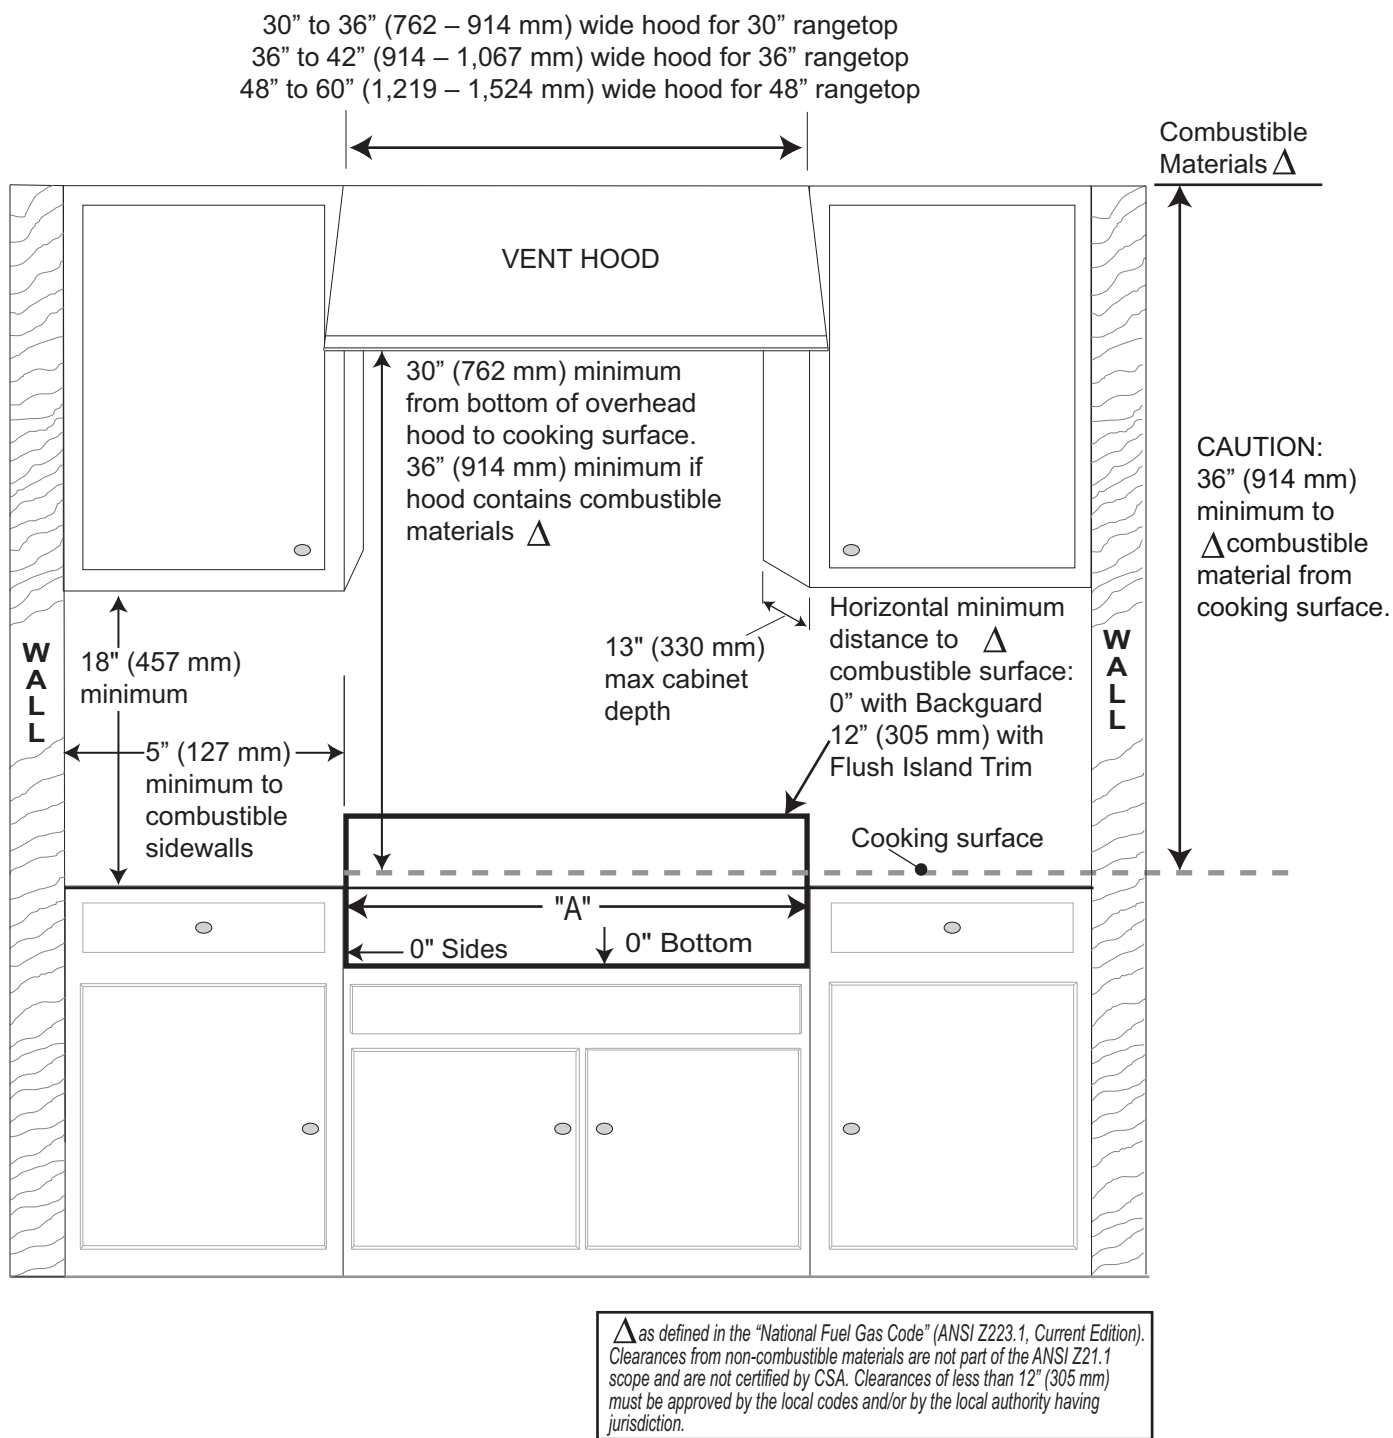

Figure 1: Clearance Requirements
When using the Flush Island Trim, THERMADOR recommends a minimum 12" (305 mm) rear clearance to a combustible surface (see Figure 1, Clearance Requirements). Clearances from non-combustible materials are not part of the ANSI Z21.1 scope and are not certified by CSA. Clearances of less than 12" (305 mm) must be approved by the local codes and/or by the local authority having jurisdiction.
- For best smoke elimination, the lower edge of the hood should be installed 30" (762 mm) above the rangetop cooking surface. Use a 36" (914 mm) minimum clearance if the hood contains any combustible materials such as a wood covering (see *Figure 1* on *page 6*).
- For high output gas rangetops (60,000 BTU or greater), the minimum of one (1) CFM of ventilation per 100 BTU is recommended. If the rangetop has a griddle, add 200 CFM to the estimated blower capacity. Additional blower capacity may be required for longer duct runs.
2. The clearances shown in *Figure 1* are required. The same clearances apply to island installations, except for the overhead cabinets, which must have a space wide enough to accept the island hood.
7. When using the Flush Island Trim, THERMADOR® recommends a minimum 12" (305 mm) rear clearance to a combustible surface (see *Figure 1*, *Clearance Requirements*). Clearances from non-combustible materials are not part of the ANSI Z21.1 scope and are not certified by CSA. Clearances of less than 12" (305 mm) must be approved by the local codes and/or by the local authority having jurisdiction.
13. For installation of a 48" rangetop above two side-by-side THERMADOR® warming drawers (WD24), refer to *Figure 8*. Completing the installation as per *Figure 8* will result in the left and right edges of the rangetop being aligned with the left edge of the left-side warming drawer and right edge of the right-side warming drawer. If different alignment is desired, the 1 7/8" (48 mm) horizontal distance between warming drawer cutouts may be varied. However, maintain at least a 1 1/8" (29 mm) distance to avoid interference between the warming drawers. Attach a 90-degree elbow to the gas rangetop inlet pipe. All above-the-countertop clearances must be maintained, as shown in *Figure 1*.